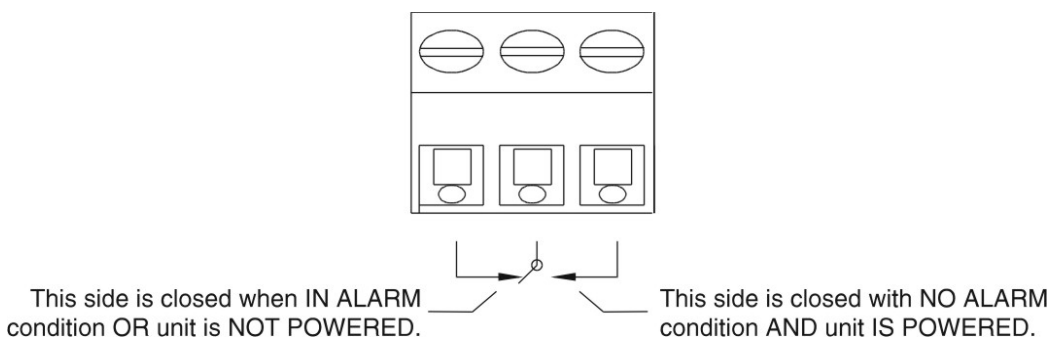

Figure 3-3: Contact ID for FAILSAFE Relay Operation
The contact connections are indicated diagrammatically on the rear panel as normally closed (NC), common (C), and normally open (NO). Figure 3-3 explains how these act in failsafe operation.